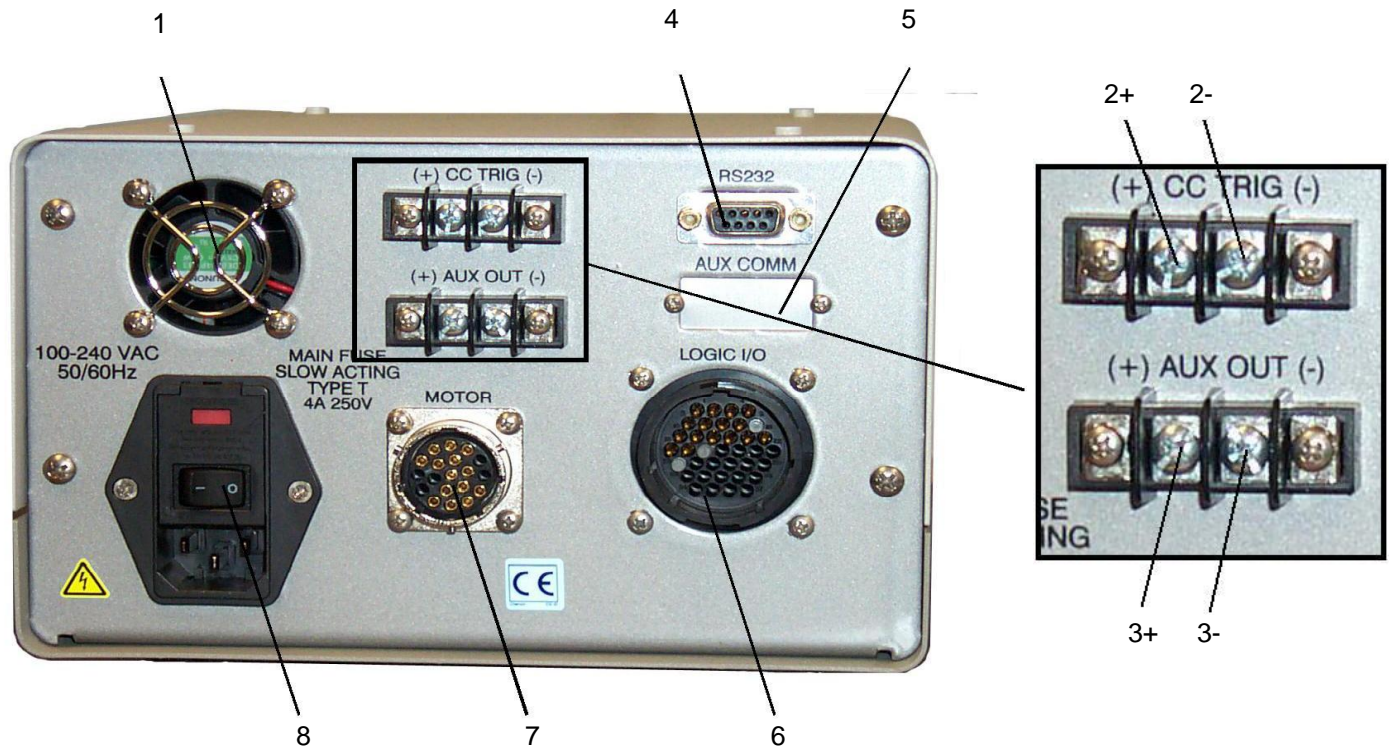

Figure 3.2 Digispense 3009 Controller Module Rear Panel
3.1.2 Rear Panel Detail (Figure 3.2)
3.1.2.1 Fan (Figure 3.2 Item 1)
3.1.2.2 AUX OUT Terminal Strip (Figure 3.2 Item 2)
3.1.2.3 CC TRIG Terminal Strip (Figure 3.2 Item 3)
3.1.2.4 RS232 Connector (Figure 3.2 Item 4)
3.1.2.5 AUX COMM Connector (Figure 3.2 Item 5)
3.1.2.6 LOGIC I/O Connector (Figure 3.2 Item 6)
3.1.2.7 MOTOR Connector (Figure 3.2 Item 7)
3.1.2.8 Power Entry Module (Figure 3.2 Item 8)